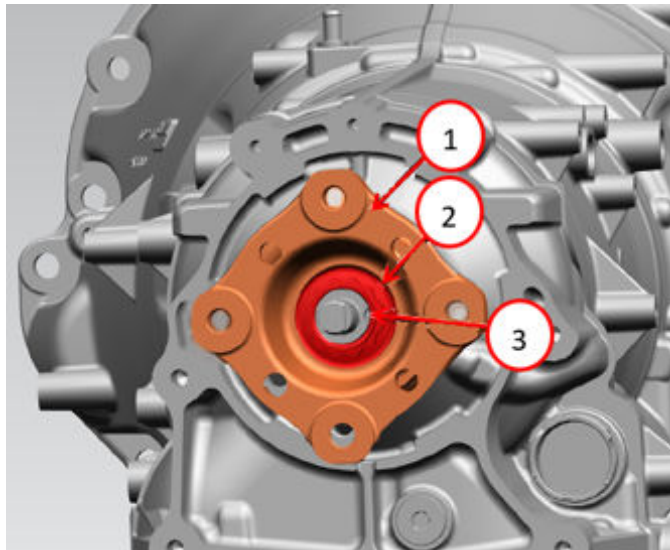

Fig. 55
80. For 2WD vehicles, install the output shaft flange Fig. 55.